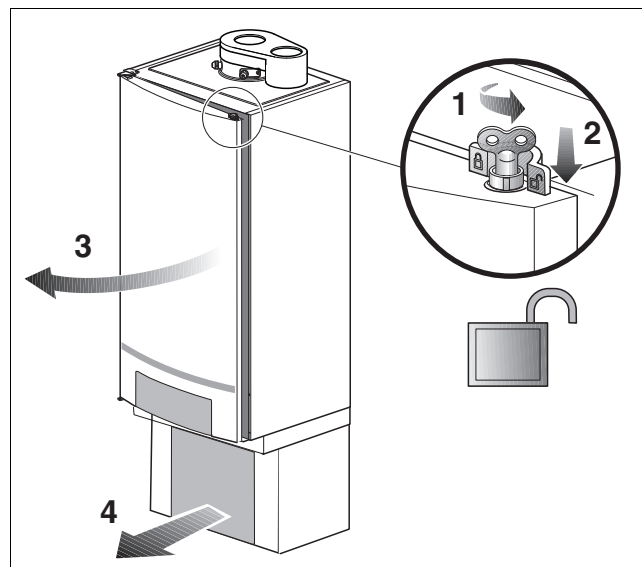

fig. 11 Opening the boiler door
- Turn the vent key through a quarter rotation to undo the boiler door lock (fig. 11, [1]).
- Push the fastener down (fig. 11, [2]) and open the boiler door (fig. 11, [3]).
- Remove the insulation cover of the pump group (fig. 11, [4]).